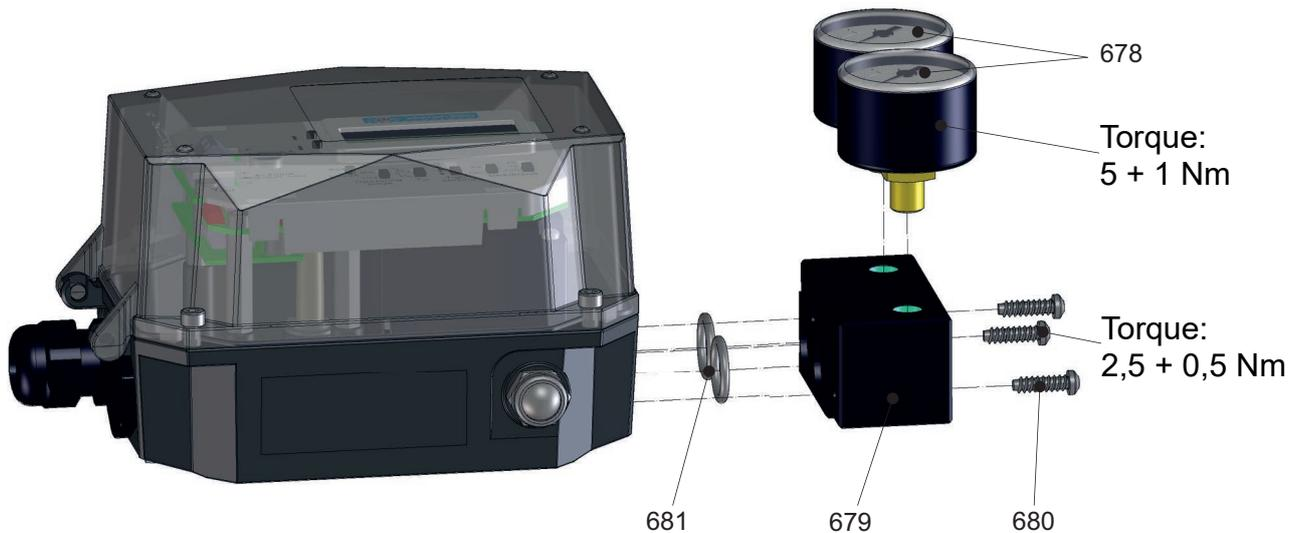

Fig. 25
8. Precise alignment of the positioner (see Fig. 25)
A rotational actuator mounting kit is required to mount the ARI-STEVI-POS® on the pneumatic part-turn actuator (see Fig. 25).